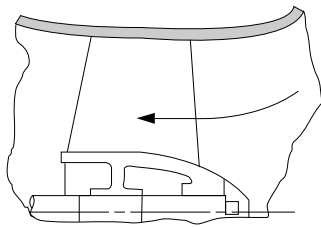

FIGURE 6. Axial Flow
- This pump, sometimes called a propeller pump, develops most of its head by the propelling or lifting action of the vanes on the liquid. It has a single inlet impeller with the flow entering axially and discharging nearly axially (Figure 6).